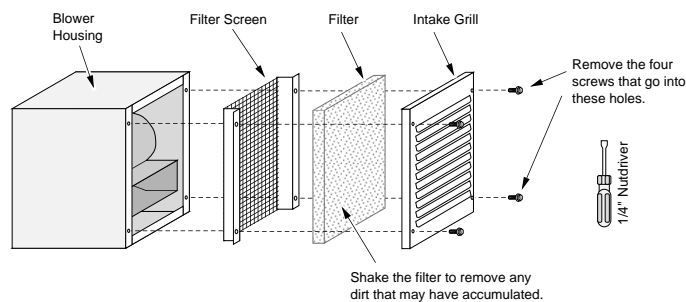

Figure 16
- The blower utilizes a filter that requires periodic cleaning (see Figure 16). Show the homeowner the blower location and inform them of the need to clean periodically.